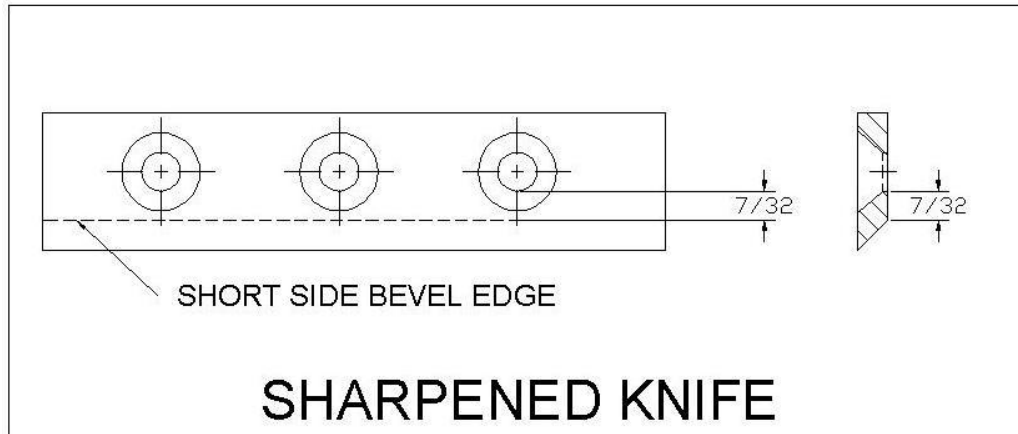

Figure 3
- Once this measurement is below  $7/32$ " (see figure 3) the knife should be replaced.